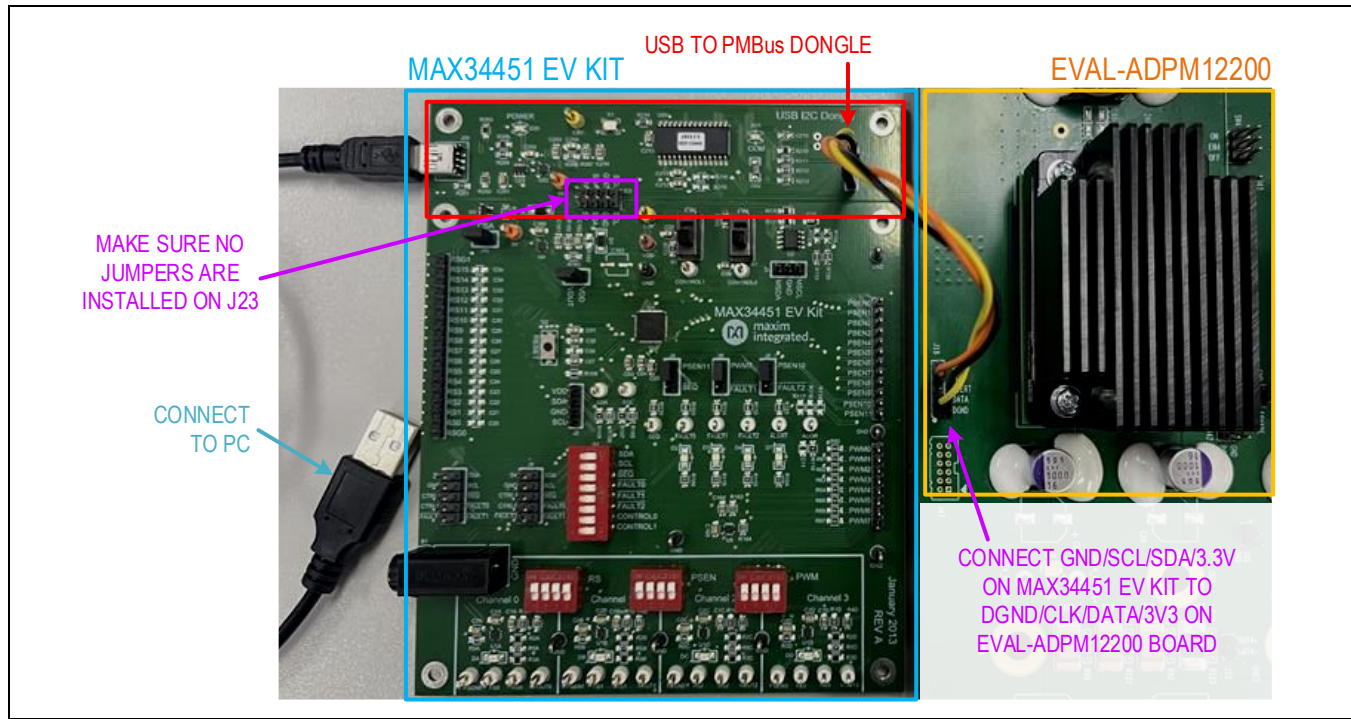

Figure 2. PMBus Connections from EVAL-ADPM12200 to PC for PMBus Communication
8. If needed, connect the MAX34451 EV kit as shown in Figure 2 for PMBus communication between the EVAL-ADPM12200 board and PC. On the MAX34451 EV kit, the power LED (D20) should be green, and the com LED (D21) should be red and slowly flash orange. When the GUI appears, the com LED (D21) should turn green.
board to GND/SDA/SCL/3.3V of J22 on the MAX34451 EV kit for PMBus communication. Make sure that no jumpers are installed on J23 on the MAX34451 EV kit; see Figure 2 for the connections.